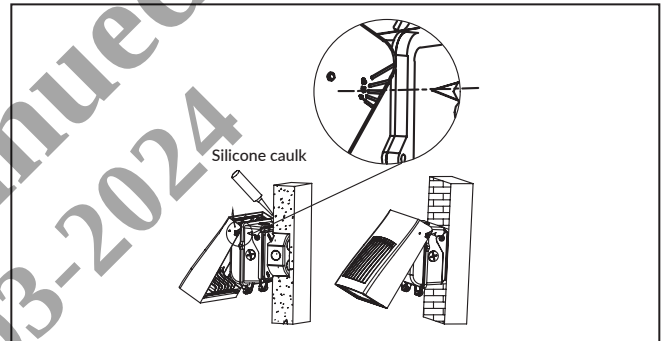

Figure 11.
12. Applying silicone caulk around the perimeter of the driver box where it meets the wall to ensure a water-tight seal. Finally adjust the fixture head angle according to project needs and secure it by locking the side philips head screw. (Figure 11)